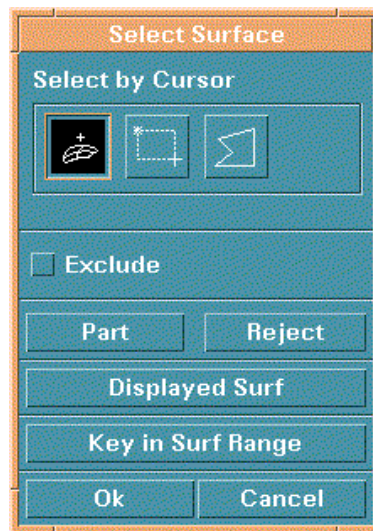

Figure 4.3.8 Select Surface
- Select SURFACE(S) and the SELECT SURFACE dialog window appears, see Figure 4.3.8.